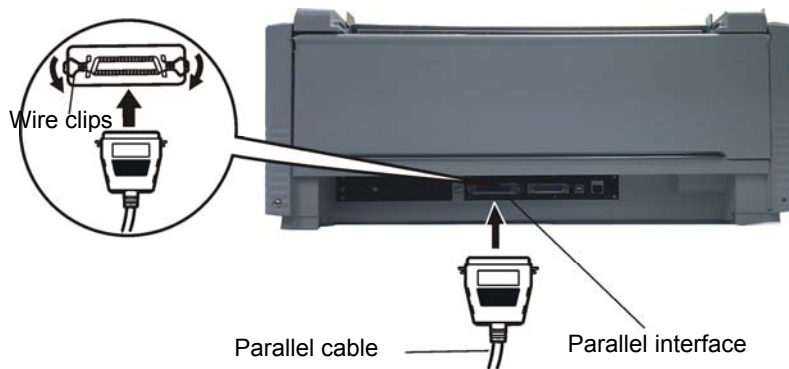

Figure 2-9 Connect to the parallel interface
Your printer can be configured with parallel interface, USB interface, serial interface or Ethernet interface, (Please take the specific interface as standard.). Connect the printer to your computer as described below. As Figure2-9, 2-10, 2-11 and 2-12 shown.
1. Turn off both the computer and the printer. Plug the parallel cable connector securely into the printer's parallel interface. Squeeze the wire clips together until they lock in place on both sides of the connector. As shown in Figure 2-9.